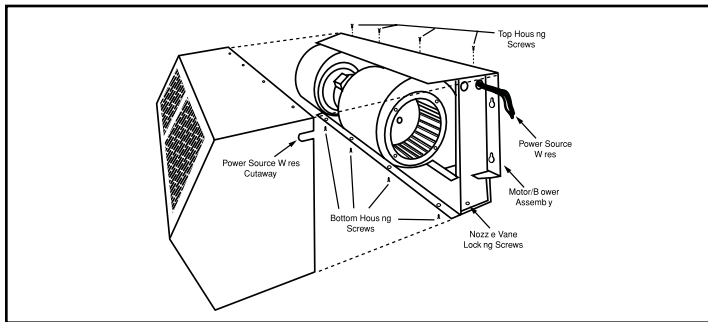

FIGURE 6 - Removing Cover
- C. Remove the wiring tray cover; on air curtains that are comprised of modules, remove the wiring tray cover that is located closest to the electrical rating nameplate (if it has not already been done). **See FIGURE 6.**